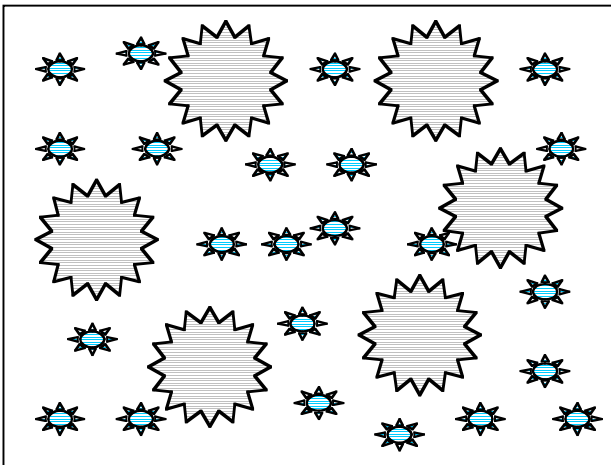

Figure 3: Cement particles free to react with water
- By reacting with a component to form an impermeable coating (precipitate) on the cement particles thus slowing down the hydration mechanism (Figures 3 and 4).